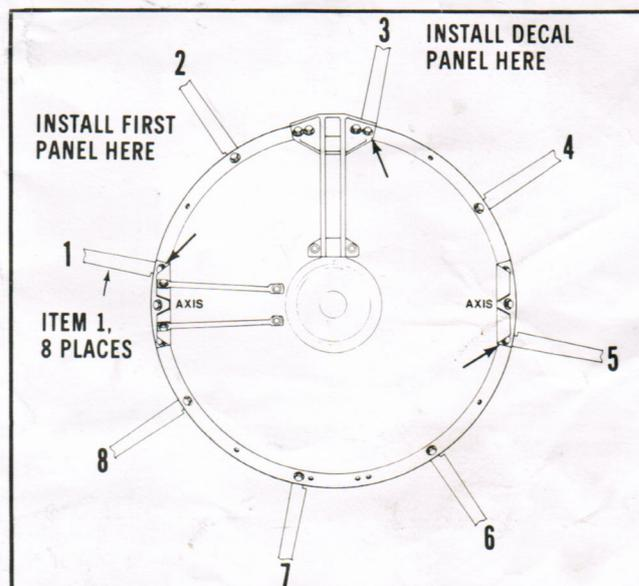

Figure 2. Rear View of Hub Assembly
STEP-BY-STEP ASSEMBLY INSTRUCTIONS FOR FIGURES 2 AND 3.
2. Starting at position 1 as indicated in figure 2, bolt a panel brace (1) to the hub perimeter, using previously installed hardware items (4), (5), and (6). Both ends of the panel brace are identical; therefore, either end may be bolted to the hub. Position the brace at the hub as shown in figure 2.
In addition to position 1, positions 3 and 5 (indicated by heavy arrows in figure 2), also use previously installed hardware to attach panel braces to the hub.
3. Bolt a second panel brace (1) to the hub perimeter at position 2, using hardware items (4), (5), and (6). Orient this brace and all other braces to be installed as you did the first brace.
4. With the first two panel braces (1) attached to the hub assembly, position a dish panel (2) between the two braces and bolt the narrow-end of the panel to the front of the hub assembly using hardware items (4), (5), and (6). You can attach the nut (6) by reaching through the large hole at the rear of the hub assembly.
5. Bolt the other end of the panel brace (1) installed at position 1 to the flange of the panel (2) just installed; use hardware items (4), (5), and (6).
6. Continue installing panels (2) and braces (1) alternately in a clockwise direction around the hub assembly as shown in figure 2. The decal panel should be installed at panel position 3 as shown.